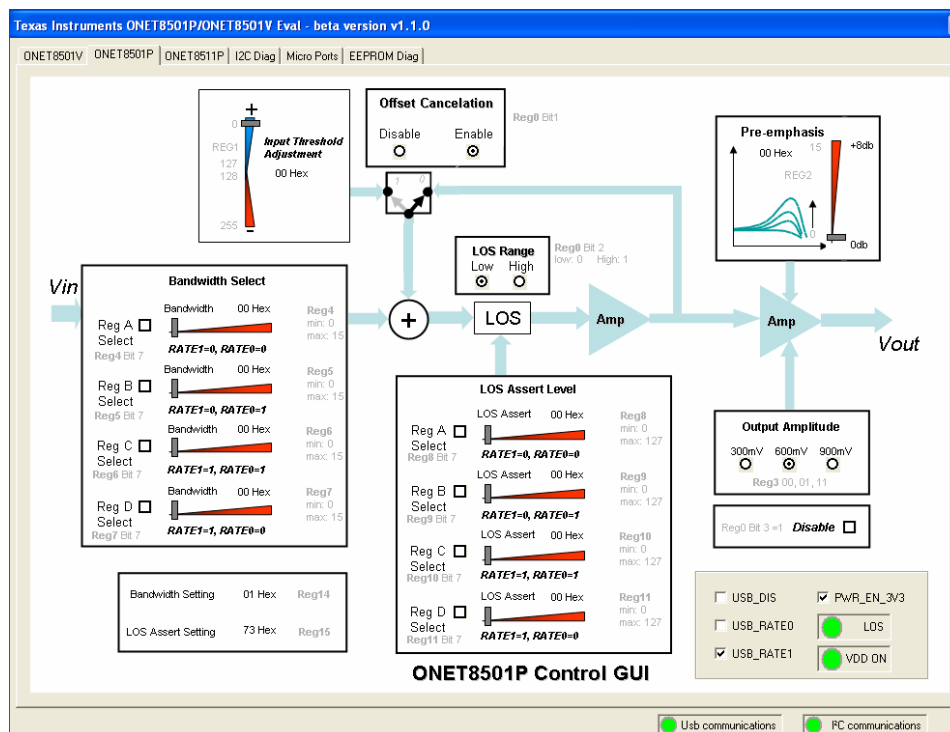
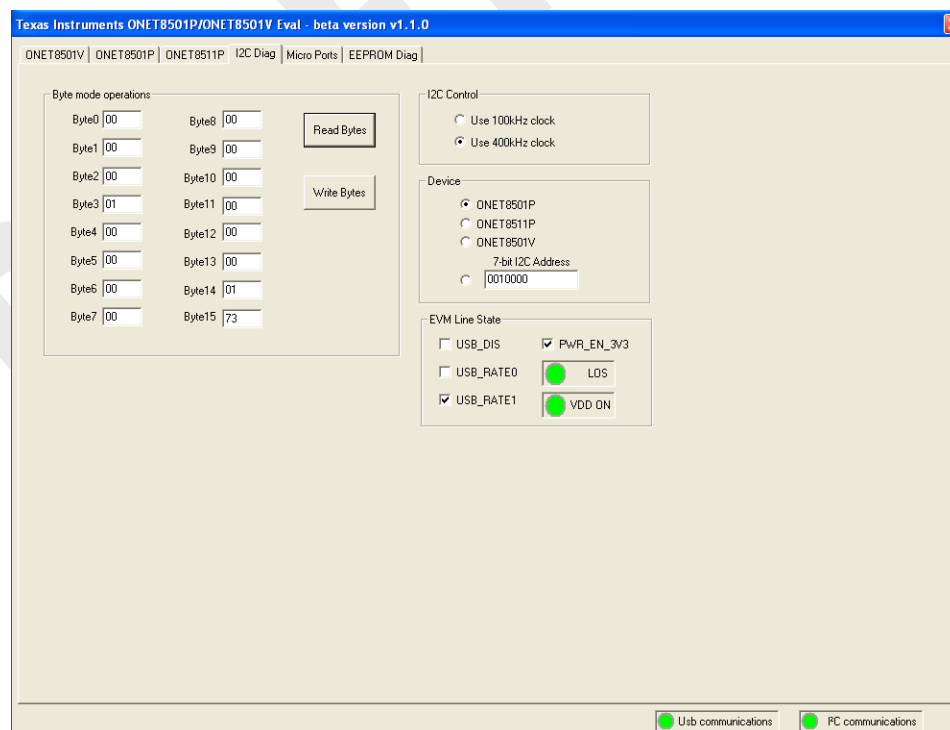

Figure 4: ONET8501P GUI
Figure 5: ONET8501P I2C Diag Page
8. Run the GUI by clicking the ONET8501 GUI shortcut icon on the desktop. Choose the ONET8501P tab. The interface will be as shown in Figure 4. The USB communication error indicator and I2C communication indicator should both be green as shown in Figure 5. If the I2C indicator is red, then press the reset button on the interface board.